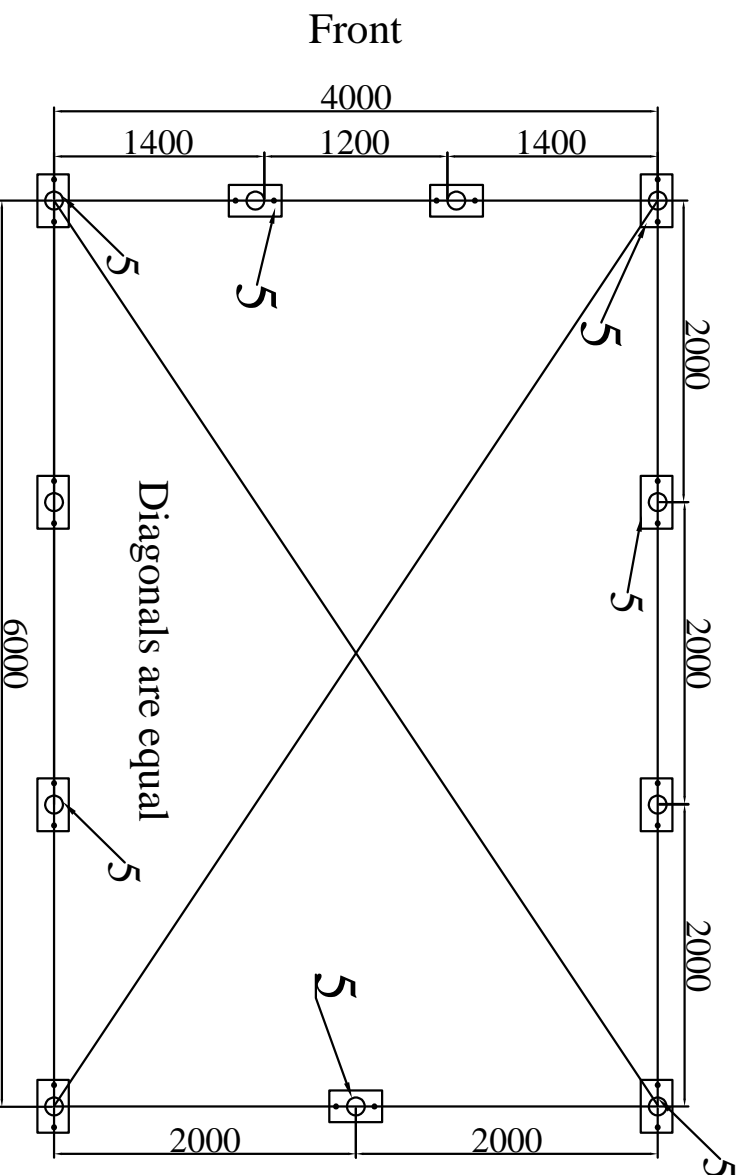

Figure 2 Position of Base Flanges
Begin by determining exact location of the four (4) corners of the building. Mark front edge and side-to-side width of assembly on ground. Drive alignment stakes into the ground outside of the markings, and draw alignment strings along both ends and sides of the building to the dimensions shown in Figure 2. The outline of the strings will represent the final location of the base flanges. The initial location of each Corner Base Flanges (5) is critical to the alignment and fit of the frame components and cover.
Locate the Left Corner Base Flange and Right Corner Base Flange(5). Secure the base flanges with Stake Pegs (Part #9). Measurements shown in Figure 2 are to the center of the upright sockets on each Base Flange.